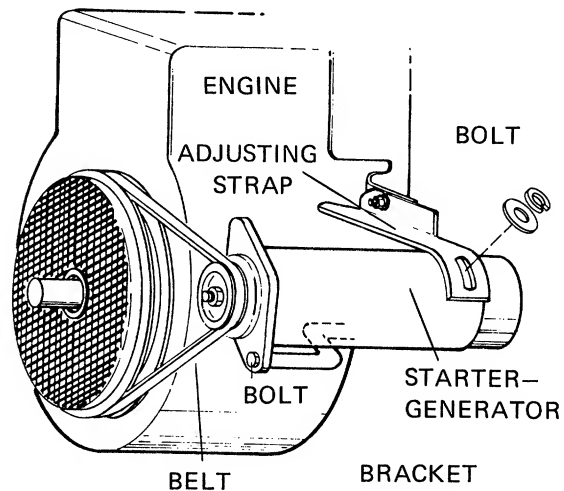

FIG. 9
**Adjustment** — To tighten, loosen the bolt in the bracket slightly, loosen the bolt in the adjusting strap and swing the starter-generator away from the engine until the belt is tight. (Belt should deflect 1/4" when depressed with your thumb.) Tighten all bolts. (see Fig. 9)
**Removal** — Follow same procedure as above except when the bolts on the bracket and adjusting strap are loose, swing the starter-generator towards the engine until the old belt can be removed and replaced. Follow the above procedure for tightening the new belt. (see Fig. 9)